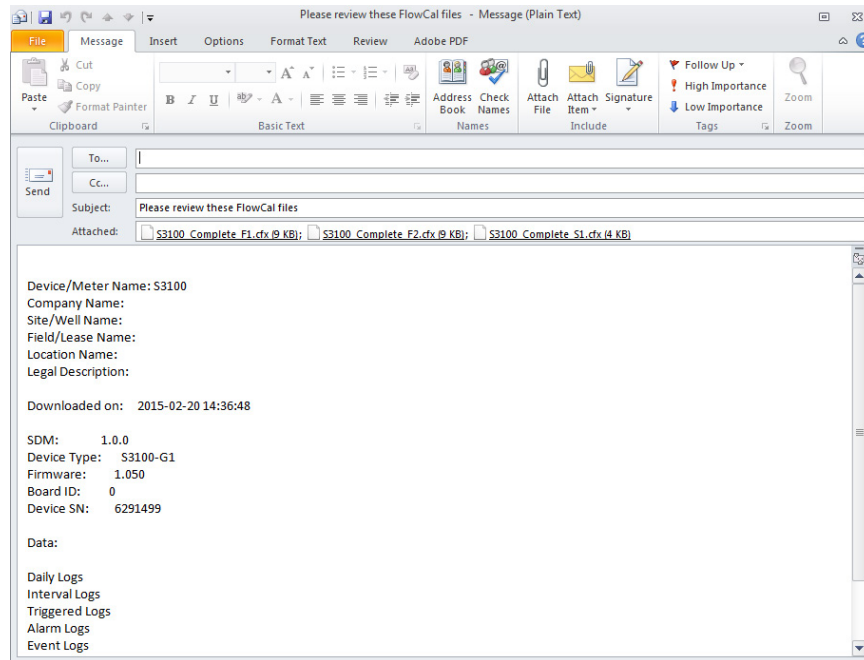

Figure 5.11—Automated email generated for converted files
4. Wait momentarily while Scanner Data Manager opens an email window on your computer, attaches the conversion file(s), and embeds a brief description of the file(s) in the body of the email (Figure 5.11, page 63).